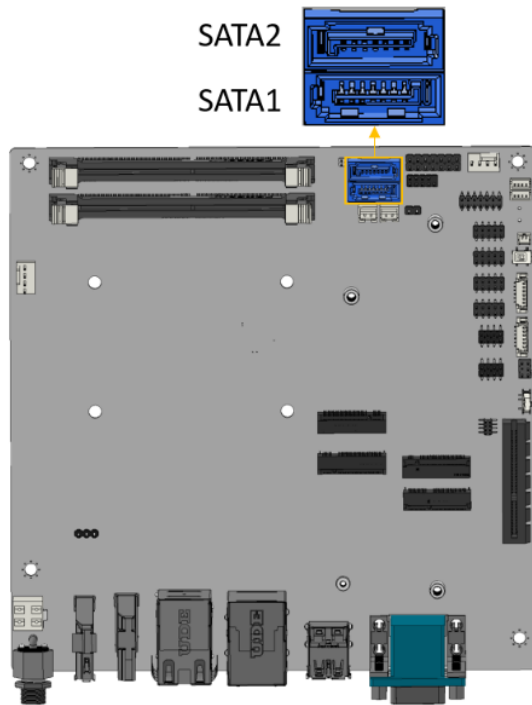

Figure 3-14: SATA 6Gb/s Drive Connectors Location
- CN Location:** See Figure 3-14